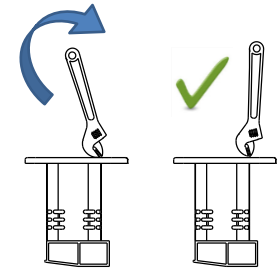

Figure 4
4. **Bumper beam modification** – using an adjustable wrench, bend the tabs on back of bumper beam up approximately 15 degrees. See Figure 4.